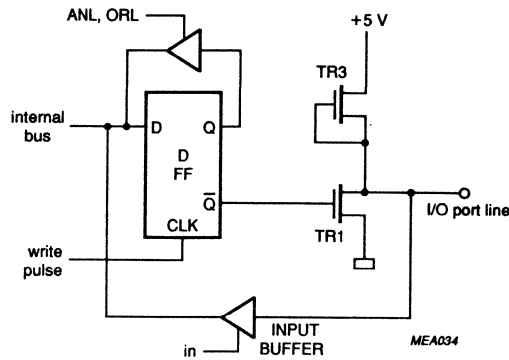

Fig. 14 Open drain I/O with pull-up transistor (option 2).
- **Option 2** OPEN DRAIN I/O WITH PULL-UP; open drain output with pull-up transistor, TR3 (see Fig. 14).